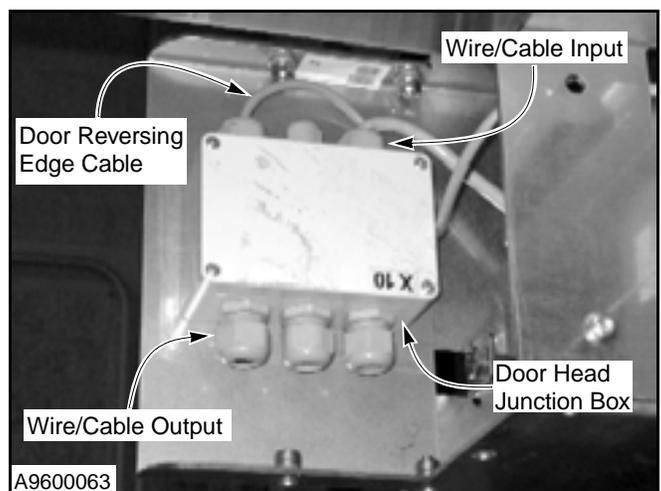

Figure 74
8. Secure the reversing edge cable to the junction box using the remaining available, single-cable cord grip. (See Figure 74.)